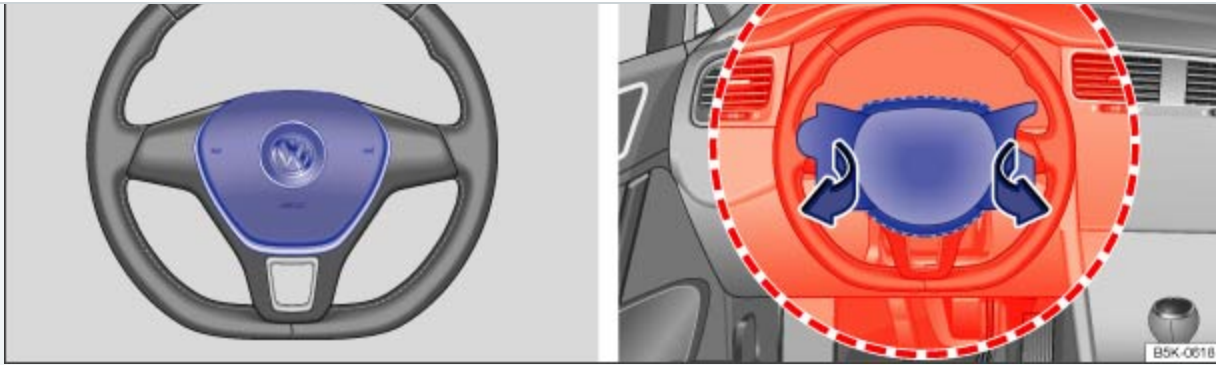
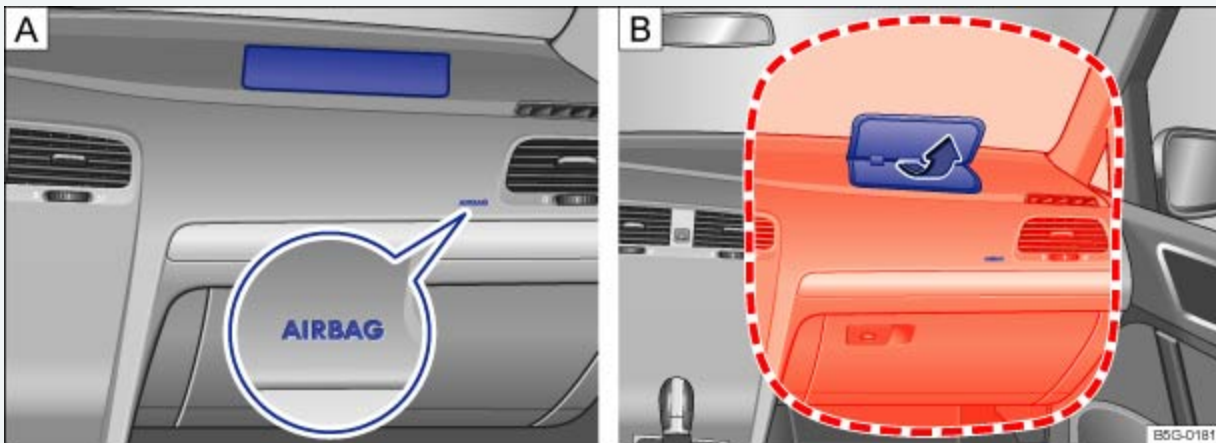

Fig. 70 Location and deployment zone of the driver front airbag.
Fig. 71 Location and deployment zone of the front passenger front airbag.
The vehicle is equipped with an Advanced Airbag System in compliance with the United States Federal Motor Vehicle Safety Standard (FMVSS) 208 or the Canada Motor Vehicle Safety Standard (CMVSS) 208 applicable at the time your vehicle was manufactured. The airbag for the driver is in the steering wheel hub ⇒ Fig. 70 and the airbag for the front passenger is in the instrument panel ⇒ Fig. 71 . The general location of the airbags is marked AIRBAG.
- Never place accessories or other objects (such as cup holders, telephone brackets, notepads, navigation systems, or things that are large, heavy, or bulky) on the doors or attach them to the doors; never place them over or near the area marked AIRBAG on the steering wheel, instrument panel, or seat backrests, or between those areas and someone in the vehicle ⇒ *Fig. 70* and ⇒ *Fig. 71* . Such objects could cause serious injury in a collision, especially if an airbag inflates.